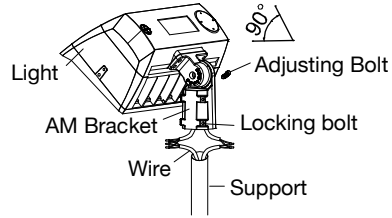

Figure 7
1. Adjustable fitter mounting (AM)
STEP 1: Connect the wire correctly and put the wire into pole. Then fasten the locking bolts between slip fitter and the pole. (FIGURE 7)